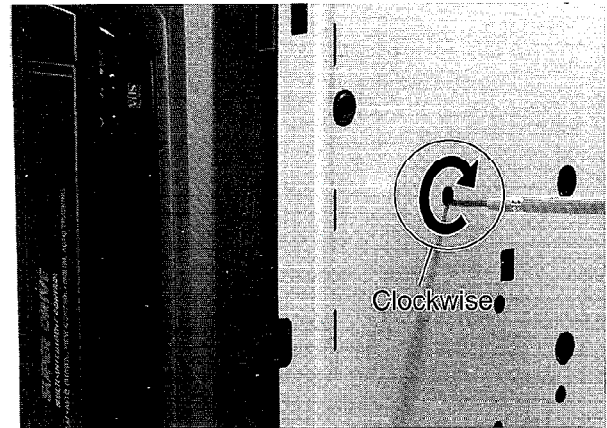

Fig. A2
- (3) Rotate the Pole of Capstan motor to the clockwise from the bottom in order to remove the tape slag (Fig. A2).